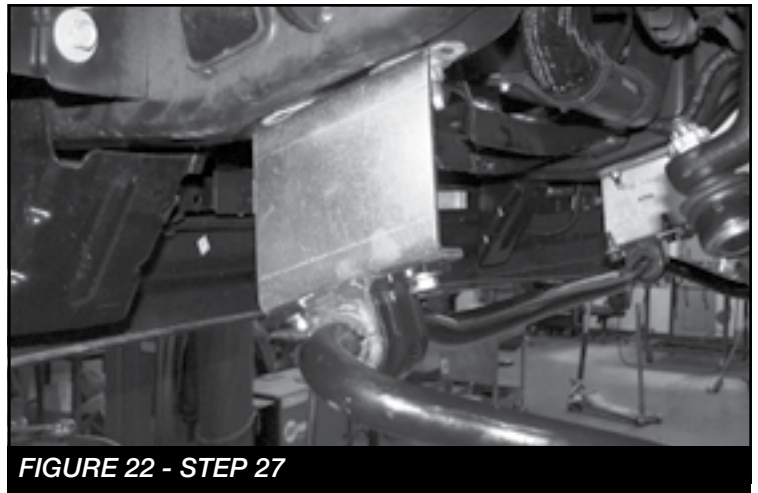

FIGURE 22 - STEP 27
27. Install FT30630 (Driver) & FT30629 (Passenger) Sway bar drop brackets using the factory hardware. Torque to 35 ft-lbs. Reinstall the front sway bar to the end links using the supplied 7/16" hardware torque all hardware to 83 ft-lbs. Reconnect the sway bar to the end links. Torque to 59 ft-lbs **SEE FIGURE 22**